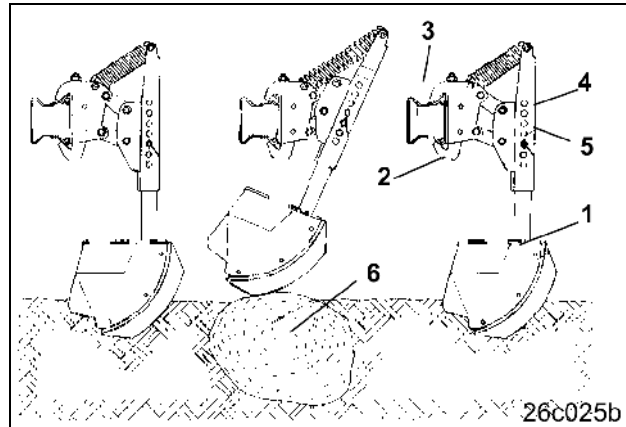

Fig. 123
The fertiliser coulters (Fig. 123/1) have been fitted to the profile rail (Fig. 123/3) by means of fixing clamps (Fig. 123/2).
The placement depth of the fertiliser can be individually set by the depth setting device (Fig. 123/4) of the fertiliser coulters. Set the depth of the fertiliser coulters by using inserting pins (Fig. 123/5).
**When hitting an obstacle (Fig. 123/6) in the soil, the fertiliser coulters give way upwards to the rear and to the side.**